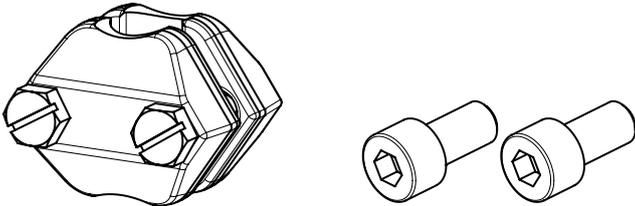

Fig. 14: Mounting kit V2001
4. Extend the actuator stem until the actuator stem (3) rests on the plug stem (5).
5. Position the two stem connector clamps (see Fig. 14) from the V2001 mounting kit and tighten.